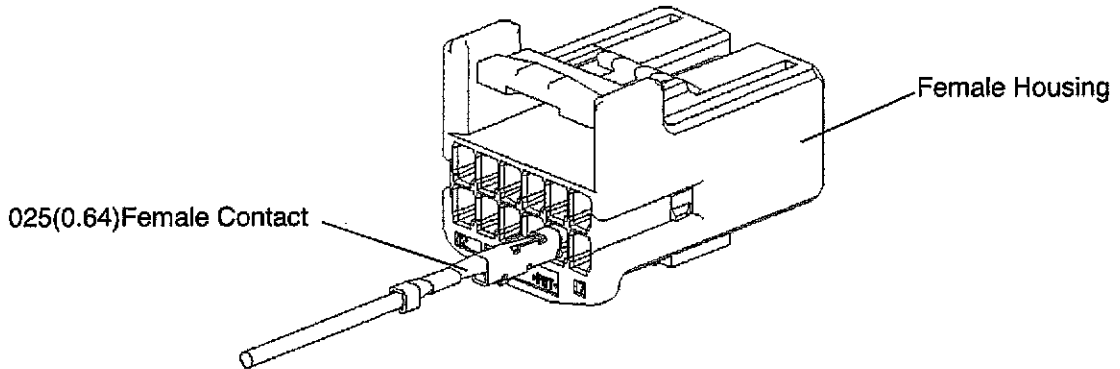

Fig.9
(3) Insert the contacts into the housing with same direction as shown in Fig.9. The insertion is finished when the lance (Contact Lance) is locked and the contact can not be more inserted.